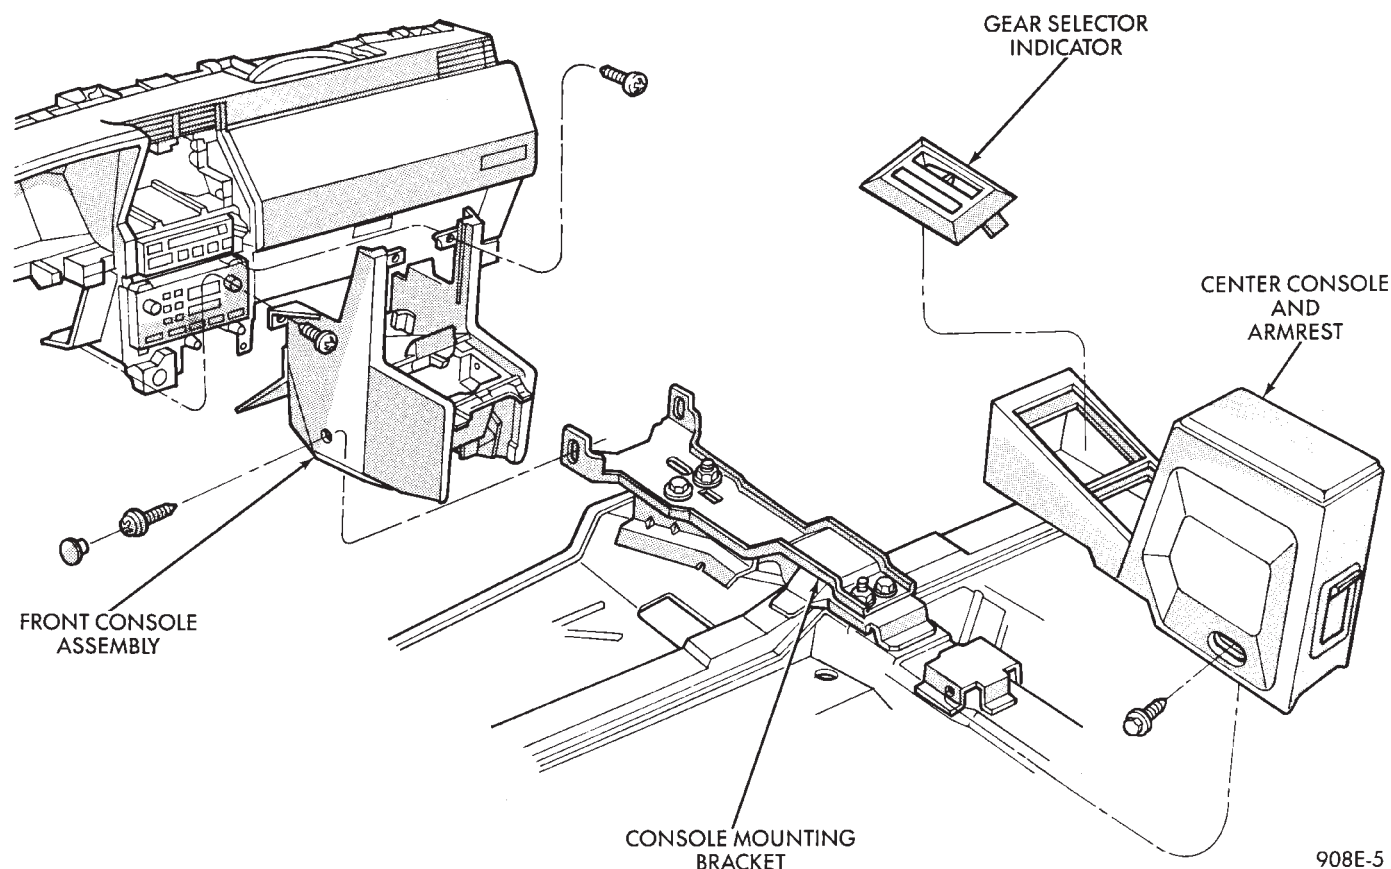

Fig. 28 Front and Center Console with Gear Selector Indicator
- (1) Remove shifter handle.
- (2) Unsnap PRNDL bezel or shift boot bezel from consolette, disconnect wiring and remove bezel assembly (Fig. 28).
- (3) Remove two screws from side of armrest.
- (1) Place transmission in neutral and remove shifter handle.
- (2) Unsnap PRNDL bezel or shift boot bezel from console, disconnect wiring and remove bezel assembly (Fig. 28).
- (3) Unsnap power window/mirror switch bezel, when so equipped and disconnect switch wiring.
- (4) Remove two screws from side of armrest.
- (5) Remove arm rest and center console section as a unit by lifting from the front and unsnapping from front console section.
- (6) For installation reverse above procedures.
- (1) Place shifter handle in Neutral position.
- (2) Remove handle from shifter.
- (3) Unsnap gear selector bezel and pull upward (Fig. 28).
- (4) Remove indicator lamp socket from bezel to replace lamp.
- (5) For installation reverse above procedures.
- (2) Unsnap PRNDL bezel or shift boot bezel from console assembly, disconnect wiring and remove bezel assembly (Fig. 28).
- (3) Unsnap power mirror/window switch bezel, when so equipped and disconnect switch wiring.
- (4) Open arm rest and remove three screws holding arm rest to center console retractor bracket.
- (5) Remove armrest and center console section as a unit by lifting and unsnapping from forward console section.
- (6) Remove center module bezel.
- (7) Remove forward console and side walls as complete unit by removing six sidewall attaching screws to instrument panel and console bracket. Slide unit rearward and lift to remove.
- (8) For installation reverse above procedures.